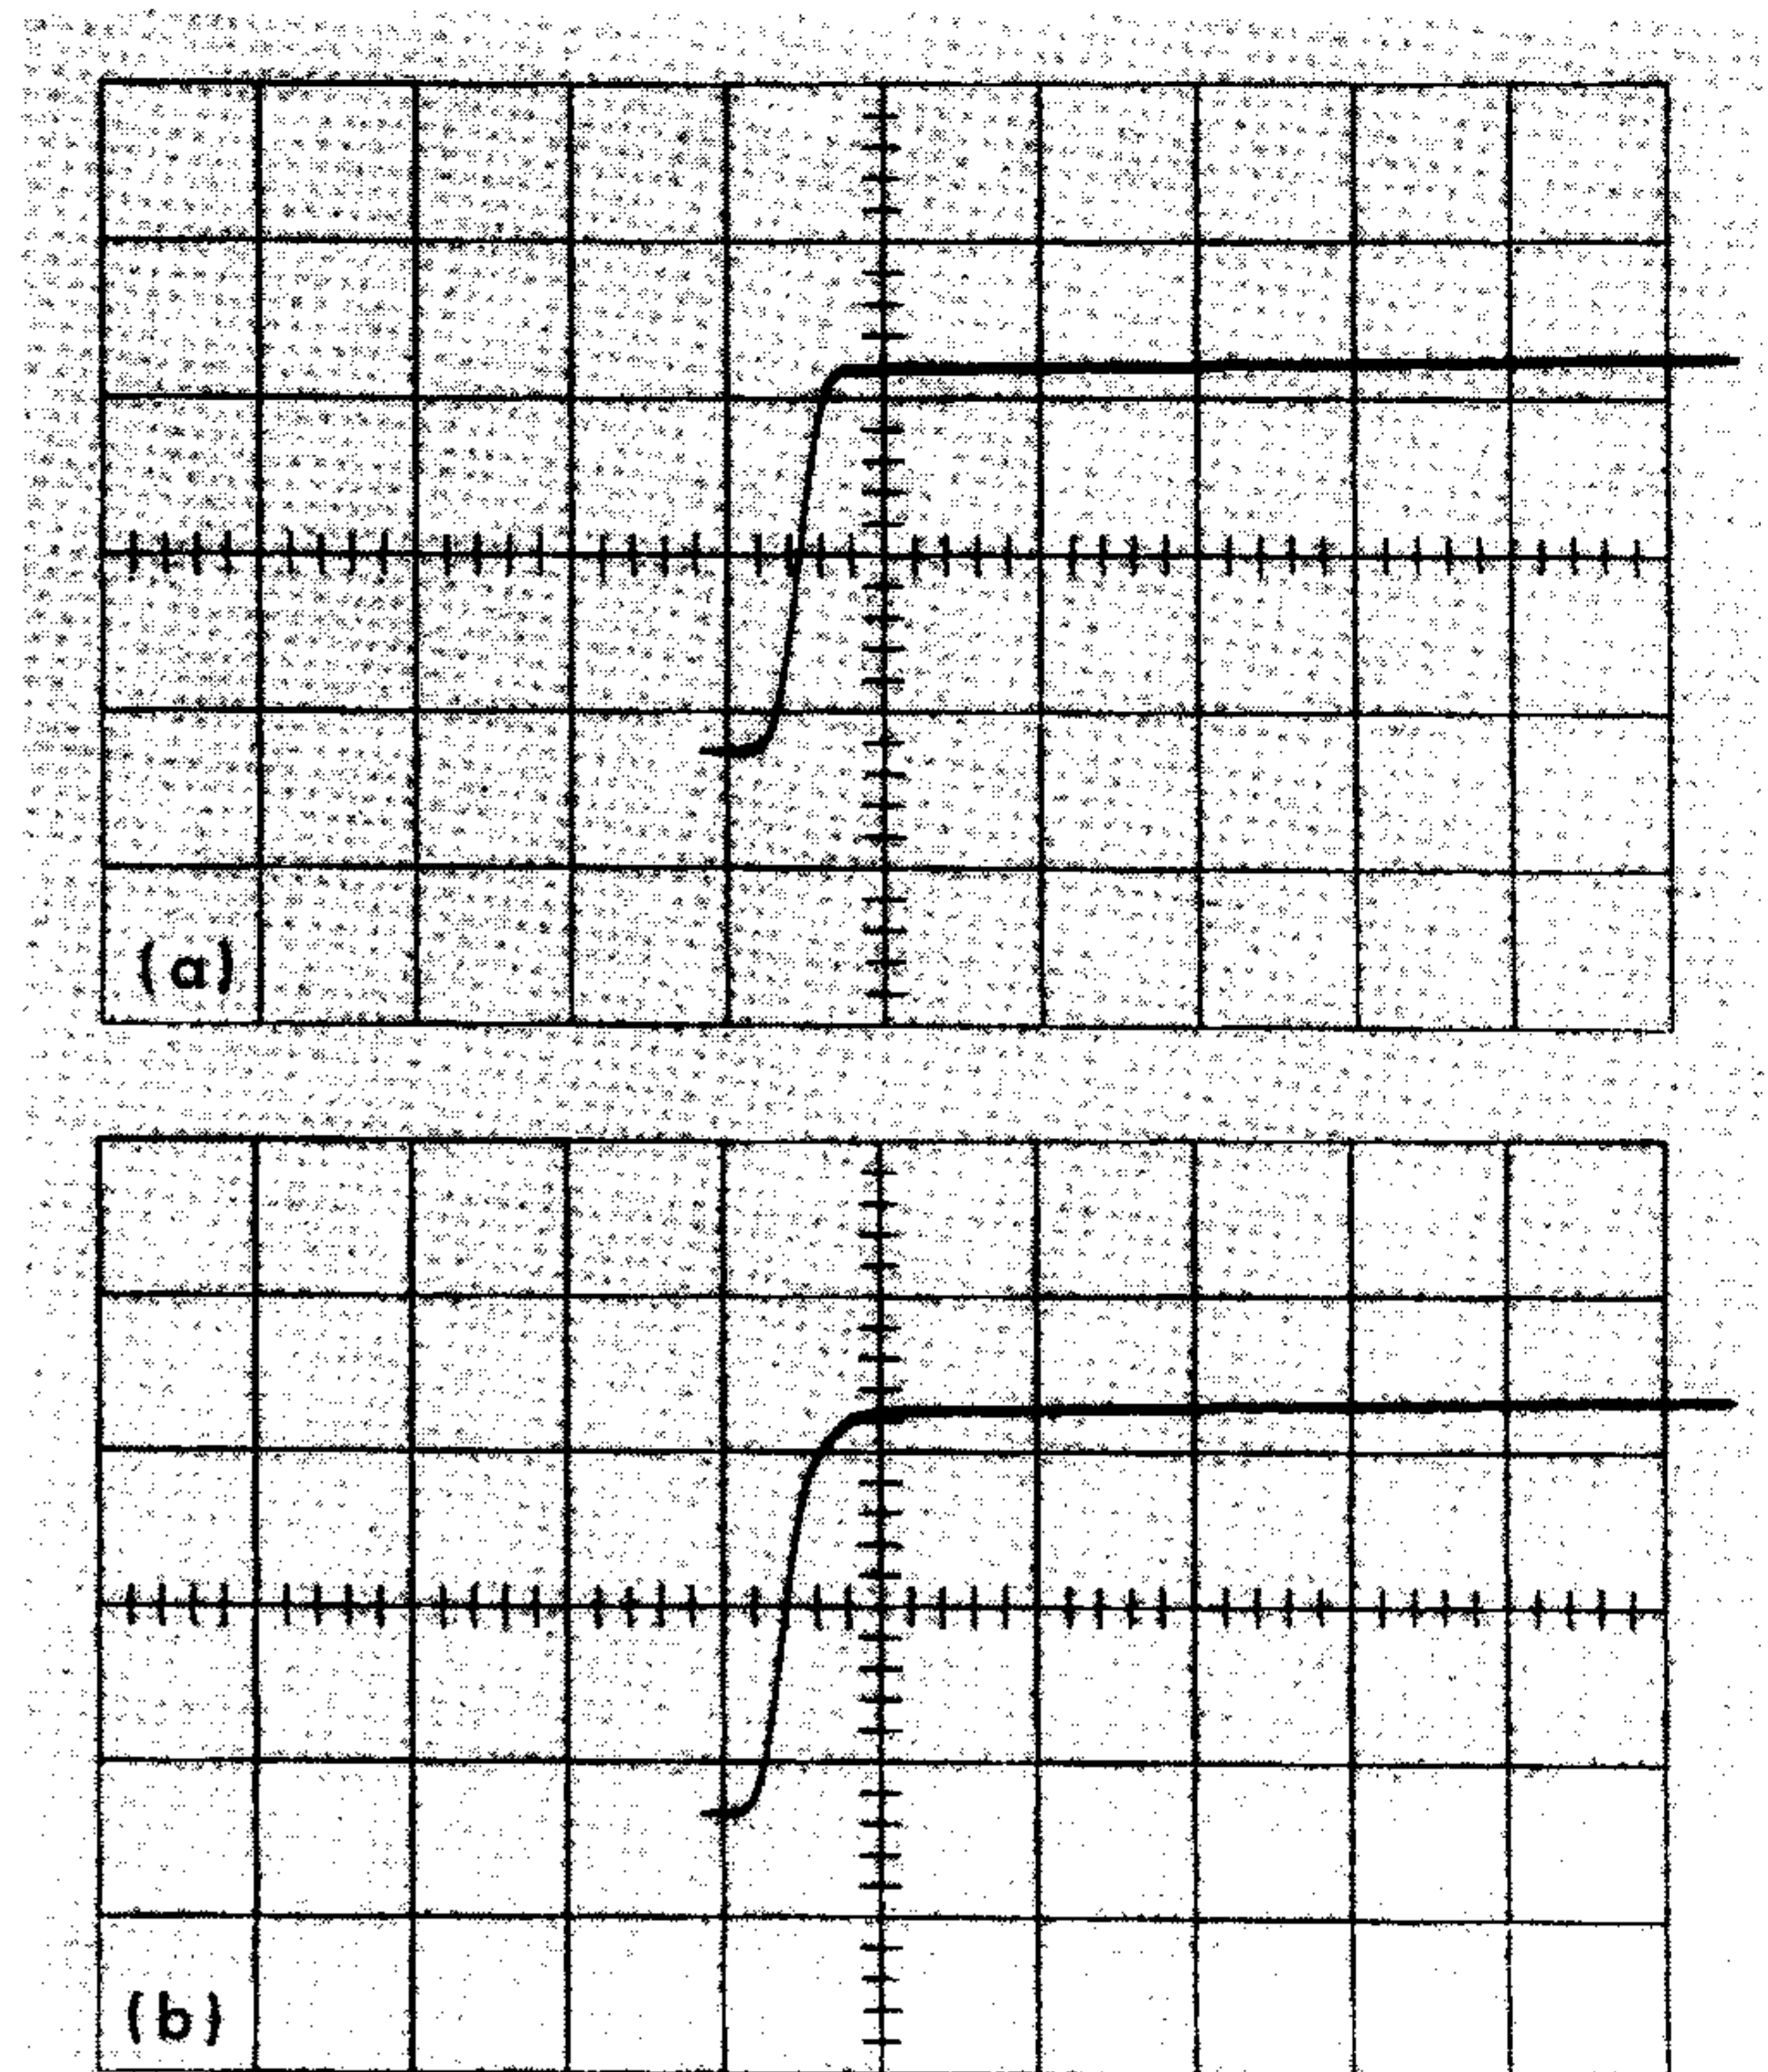

Fig. 3-6. Waveforms showing effect of transient response adjustments.
8. Adjust L430 and L440 for the fastest rising square wave without appreciable overshoot and ringing, as displayed on the test oscilloscope. (See Fig. 3-6)